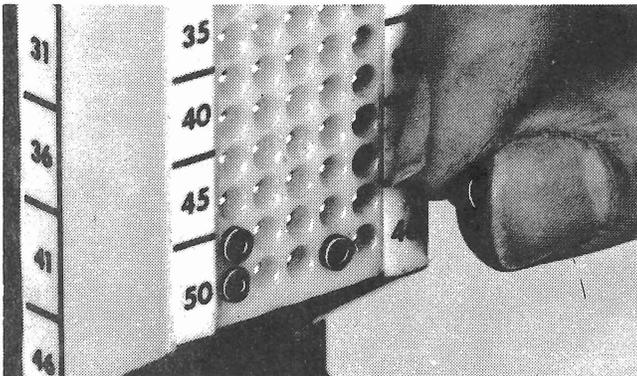

Figure 37. Test Point Insulator Button
21.01 The Test Point Insulator Button fits into the recess for the contacts on the test fields (see figure 37). This button may be used to isolate